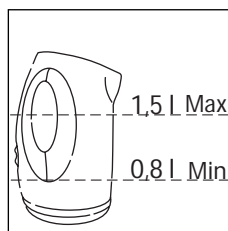

Fig. 5
- Do not fill with more than 1,5 litres of water (up to the MAX indication located inside the kettle) (fig. 5).